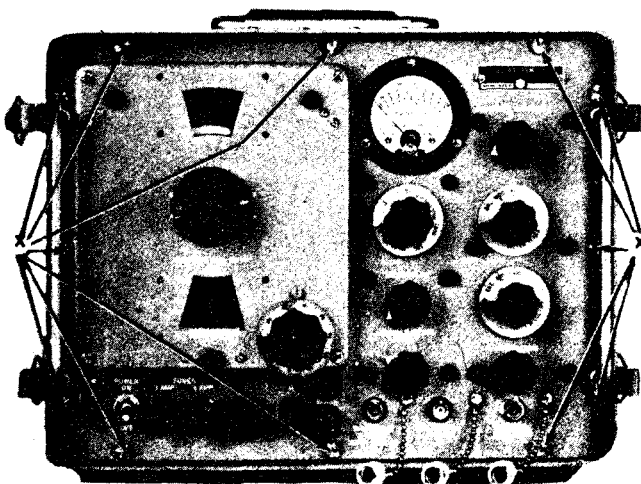

Figure 6-2. Front Panel View for Removal of RF Signal Generator SG-44/URM-25 from Cabinet
- (1) Remove the power cable (W-101).
- (2) Loosen the twelve captive screws located around the outer edge of the panel (See figure 6-2).
- (3) Gently pull the generator chassis about eight inches from the cabinet, using the lifting handles provided on the front panel. The generator unit cannot be completely removed since the interconnecting power cable (W-102) and output power cable (W-103) are still connected to the power supply sub-chassis.
- (4) Remove the output power supply connector (P-102) and the AC input connector (P-101) from the